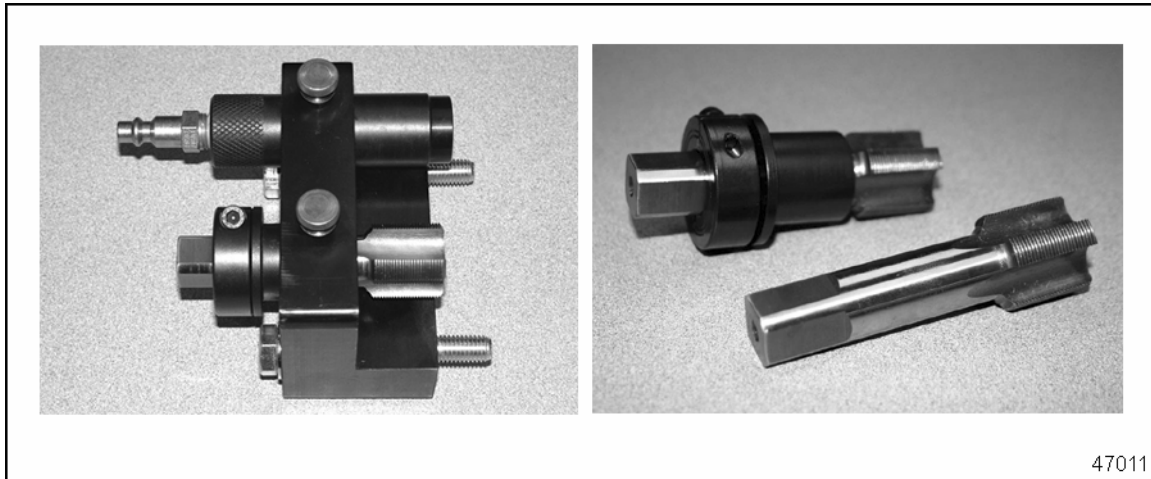

Figure 6 Tap Guide Assembly and Adaptor Block
8. Apply a light coat of clean engine oil to the shaft of the Tap (J-47485-5) and install the Tap Guide Assembly (J-47485-6) into the bottom hole of the Adaptor Block (J-47485-1). See Figure 6.